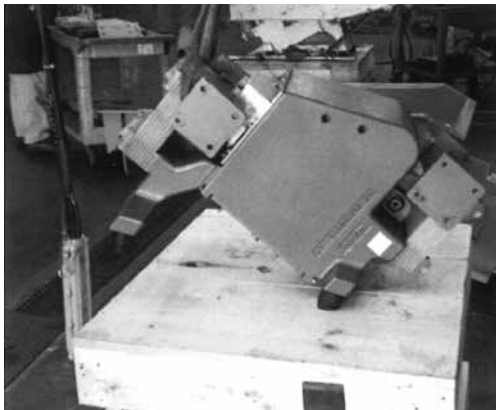

Figure 6
3. To help assisting in the removal of the coil it is recommended to either angle the feeder upwards on its back legs (figure 6) or flip the feeder upside down to gain access to the coil.